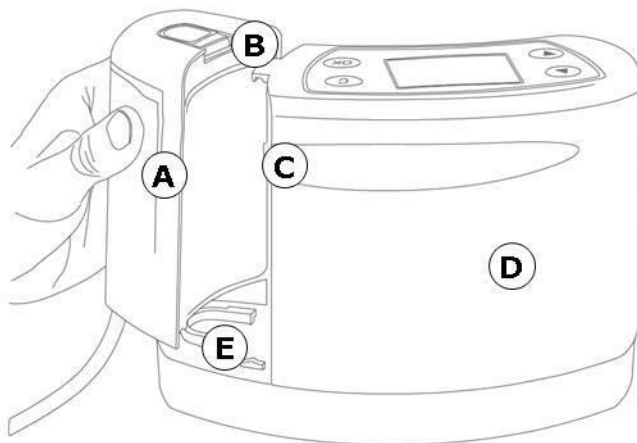

Fig. 5 Connecting the disposable secretion canister
1. Remove the disposable secretion canister (fig. 5 (A)) from the packaging.
2. Slide the canister onto the guide rail (fig. 5 (E)) of the **ASSKEA procuff® M** until the disposable secretion canister clicks into place in the locking mechanism (fig. 5 (B)).